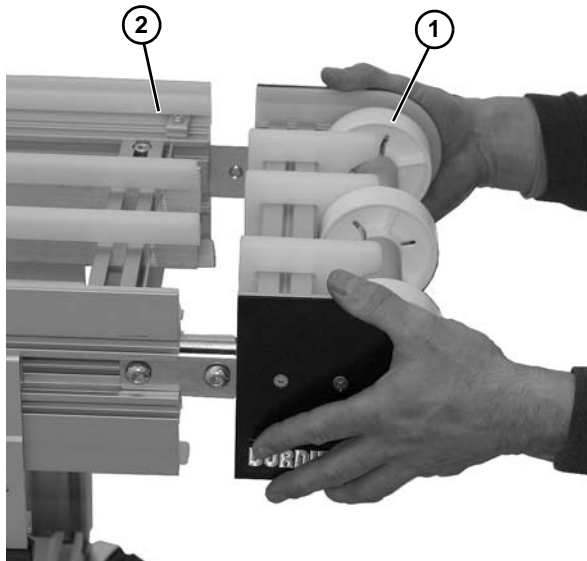

Figure 81
3. Remove the idler tail assembly (Figure 81, item 1) from the frame (Figure 81, item 2).